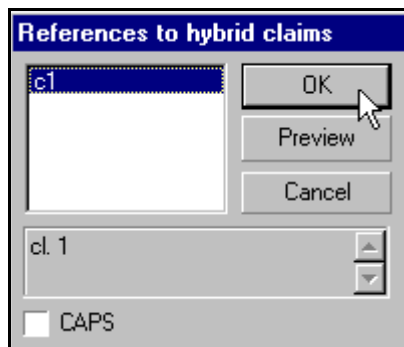

Figure 4-12 Select the Hybrid Claim Reference Number ID
- 5b. From the list of claims, select the number ID of the claim to which you are referring (see Figure 4-12).